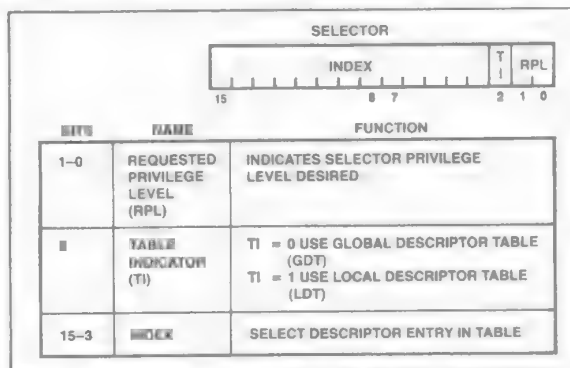

Figure 15. Selector Fields
A protected mode selector has three fields: descriptor entry index, local or global descriptor table indicator (TI), and selector privilege (RPL) as shown in Figure 15. These fields select one of two memory based tables of descriptors, select the appropriate table entry and allow high-speed testing of the selector's privilege attribute (refer to privilege discussion below).